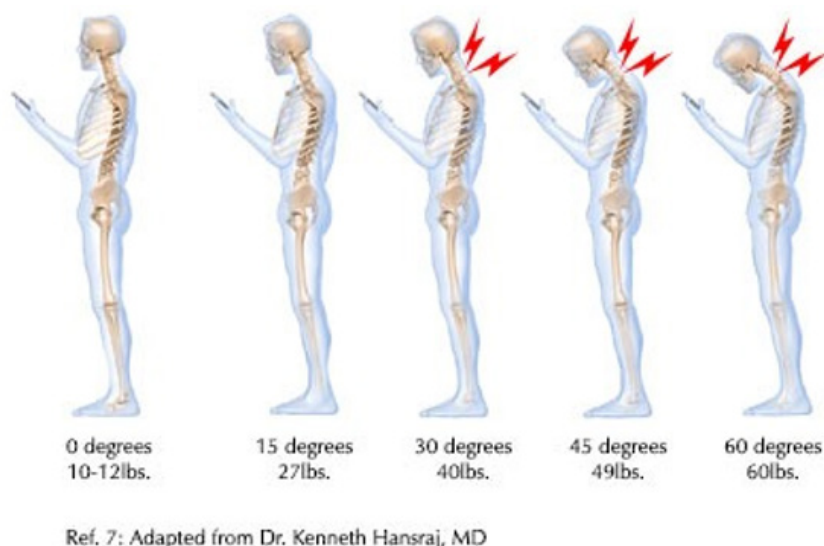

Figure 1: Neck posture and spinal stress.
- Am I tilting my head too much? Do my loupes force me to excessively tilt my head? The recommended head tilt to prevent neck pain and injuries is less than 20-degrees [5]. Most traditional loupes may force you to excessively tilt your head (Figure 1).